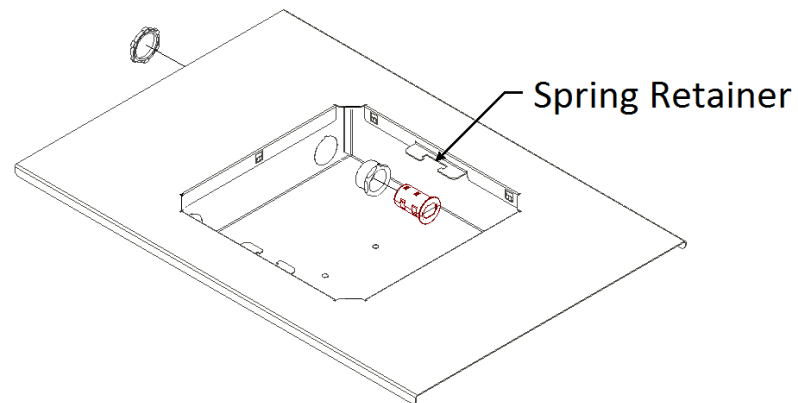

Figure 1 - Conduit Connector Installation.
Step 1 – Remove any knockouts from the tile bridge needed for cable egress. Fasten the conduit connector to the tile bridge through the open knockout (Figure 1).